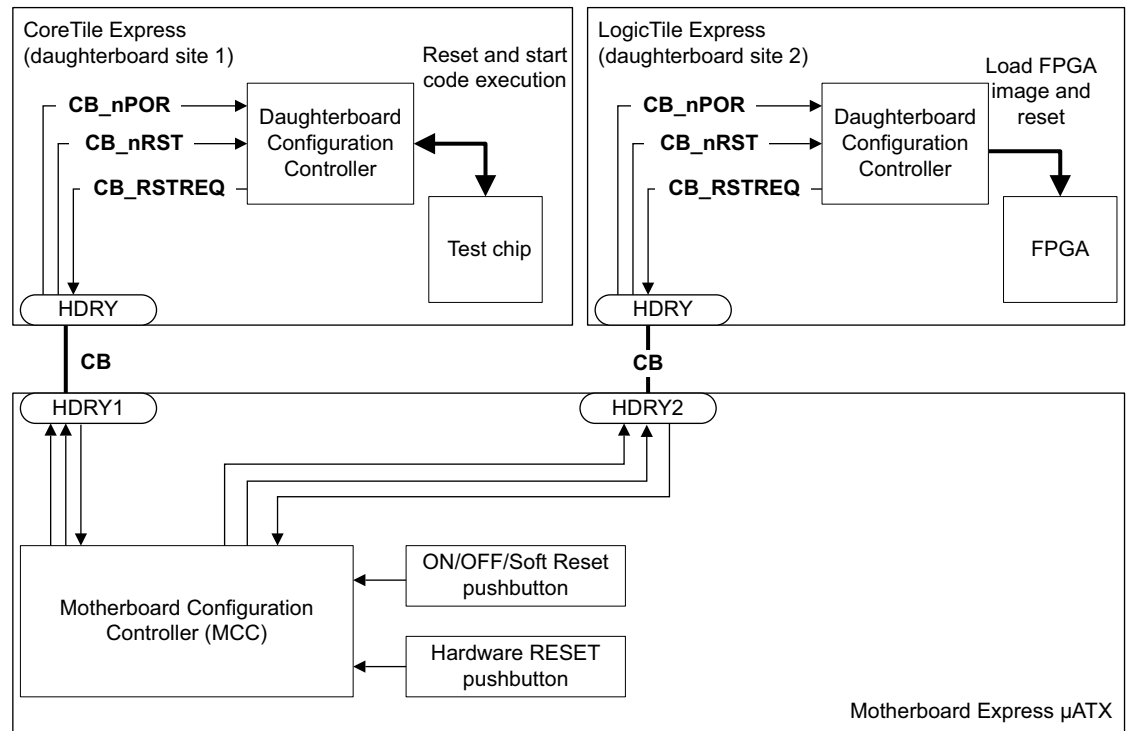

Figure 2-2 Reset signals
Figure 2-2 shows the power up **ON/OFF/Soft Reset** push button and **Hardware RESET** push-button signals in the system.
2. The Daughterboard Configuration Controller asserts **CB_RSTREQ** to the MCC on the motherboard. See Figure 2-2 on page 2-6.